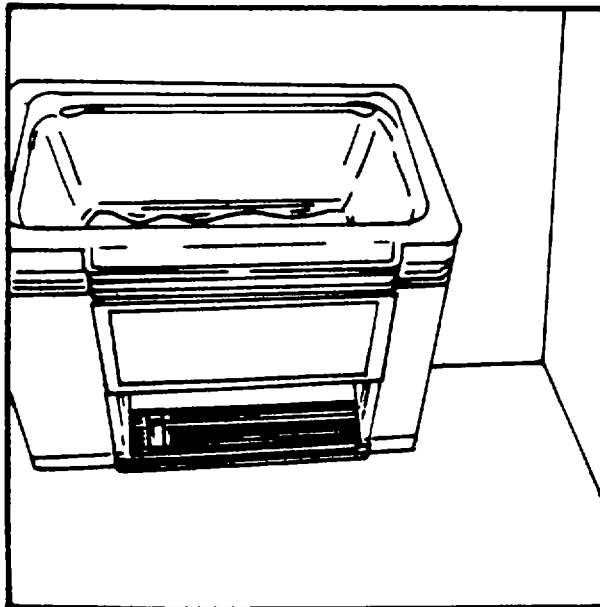

Figure 1-19. Ultrasonic Cleaner
k. *Ultrasonic Cleaner (Figure 1-19)*. Cleans laboratory instruments and glassware and is stored in cabinet C when not in use.